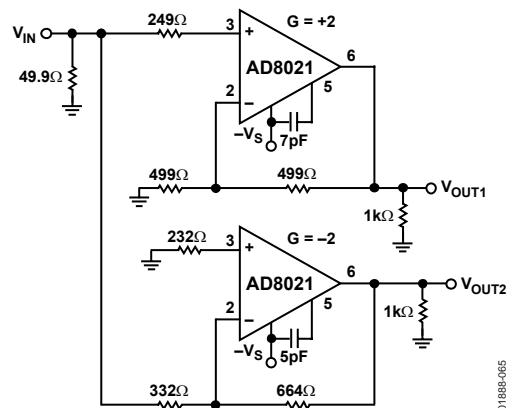
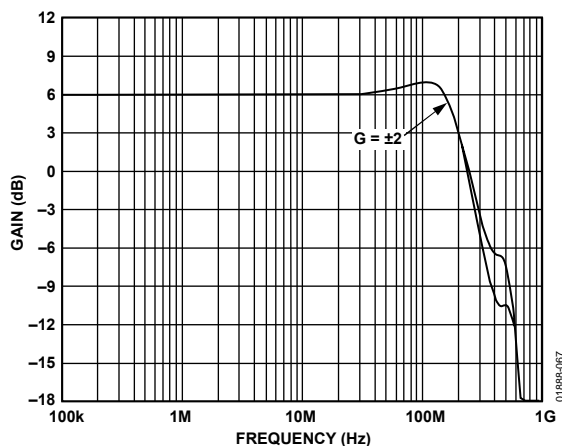

Figure 65. Differential Amplifier
Figure 67. AC Response of Two Dissimilarly Compensated AD8021 Op Amps (Figure 66) Configured for a Gain of +2 and a Gain of -2, (Note the Close Gain Match)
- Match bandwidth in gain blocks with different noise gains, such as when designing differential amplifiers (as shown in Figure 65).
Figure 65 illustrates an inverter-follower driver circuit operating at a gain of 2, using individually compensated AD8021s. The values of feedback and load resistors were selected to provide a total load of less than 1 k Ω , and the equivalent resistances seen at each op amp's inputs were matched to minimize offset voltage and drift. Figure 67 is a plot of the resulting ac responses of driver halves.